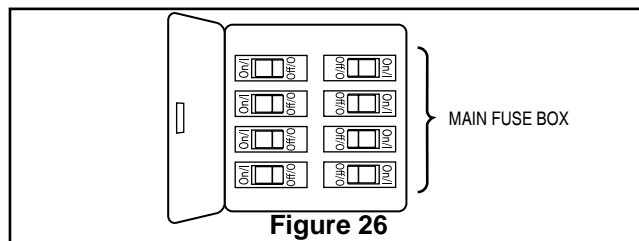

Figure 26
1. Restore electrical power to the outlet box by turning the electricity on at the main fuse box. (Figure 26)